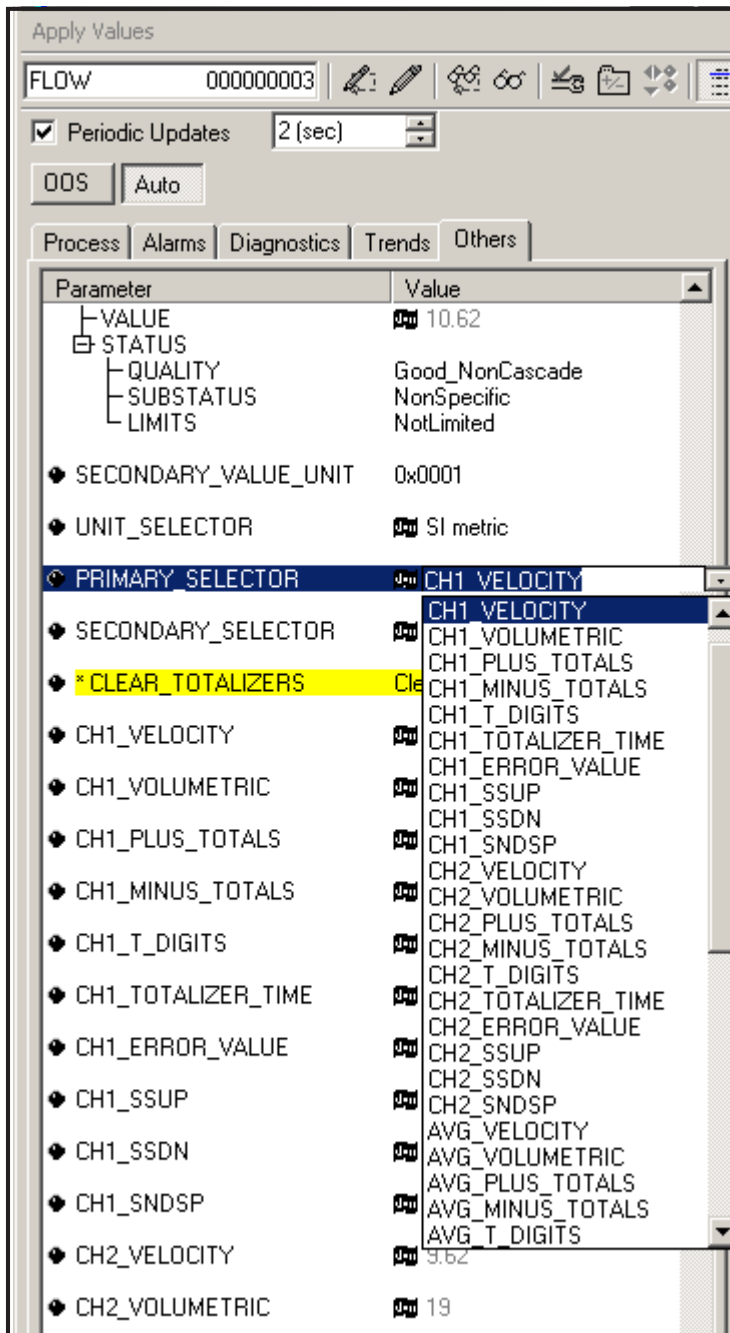

Figure 57: Primary Selector Drop Down List
2. Select the **Others** tab and open the drop down list for the PRIMARY_SELECTOR and SECONDARY_SELECTOR (refer to Figure 57 on page 143).
3. Choose the unit from the list (see Figure 57 on page 143).